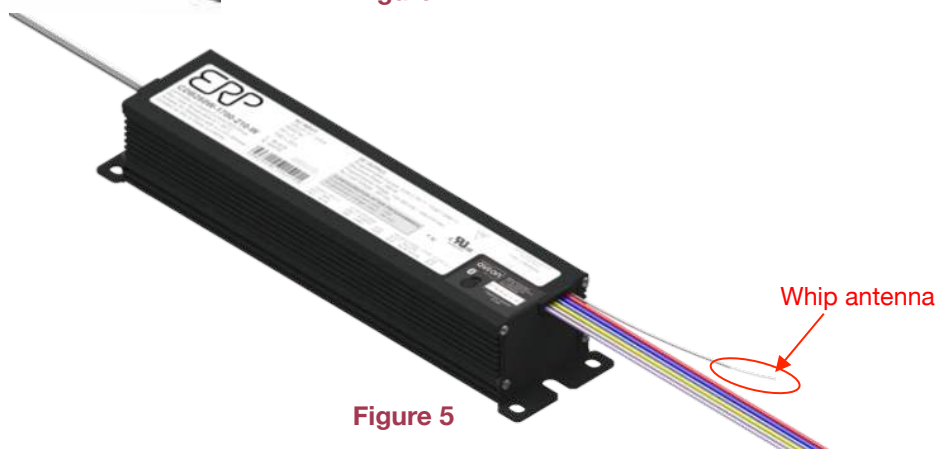

Figure 5
- A fixed whip antenna (see figure 5), included with the driver. Please add the suffix "W" at the end of the part number to order the CDB260 driver with the whip antenna. For example: CDB260W-0860-400-W.